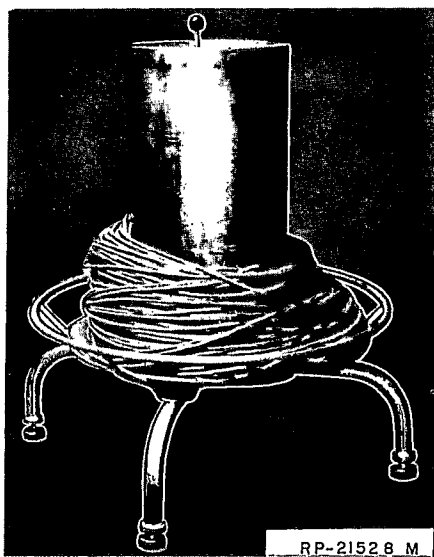

FIG. 5 R-3409 COIL CABLE DISPENSER
10.025 When power wire is furnished in coils, if the size of the coil adapts itself the coil cable dispenser R-3409 (Figure 5) may be used. Anticipate the coiled tension when cutting the retaining ties to prevent damage to personnel and equipment.